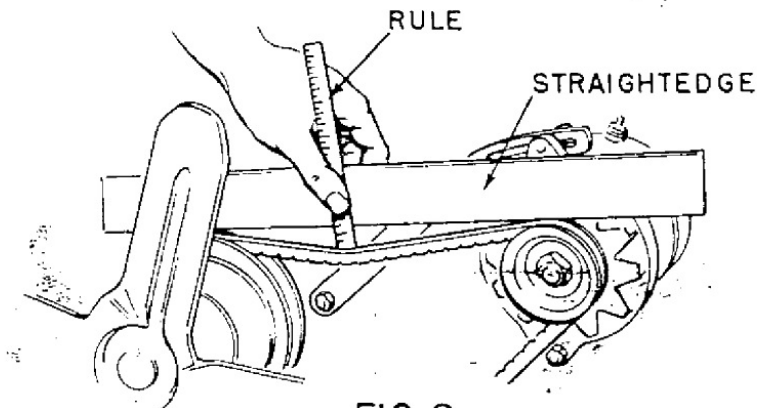

FIG. 2
7. Place Drive Bolt on Pulleys and adjust belt tension (Fig. 2). Tighten Tension Arm Bolt and Mounting Bolts.